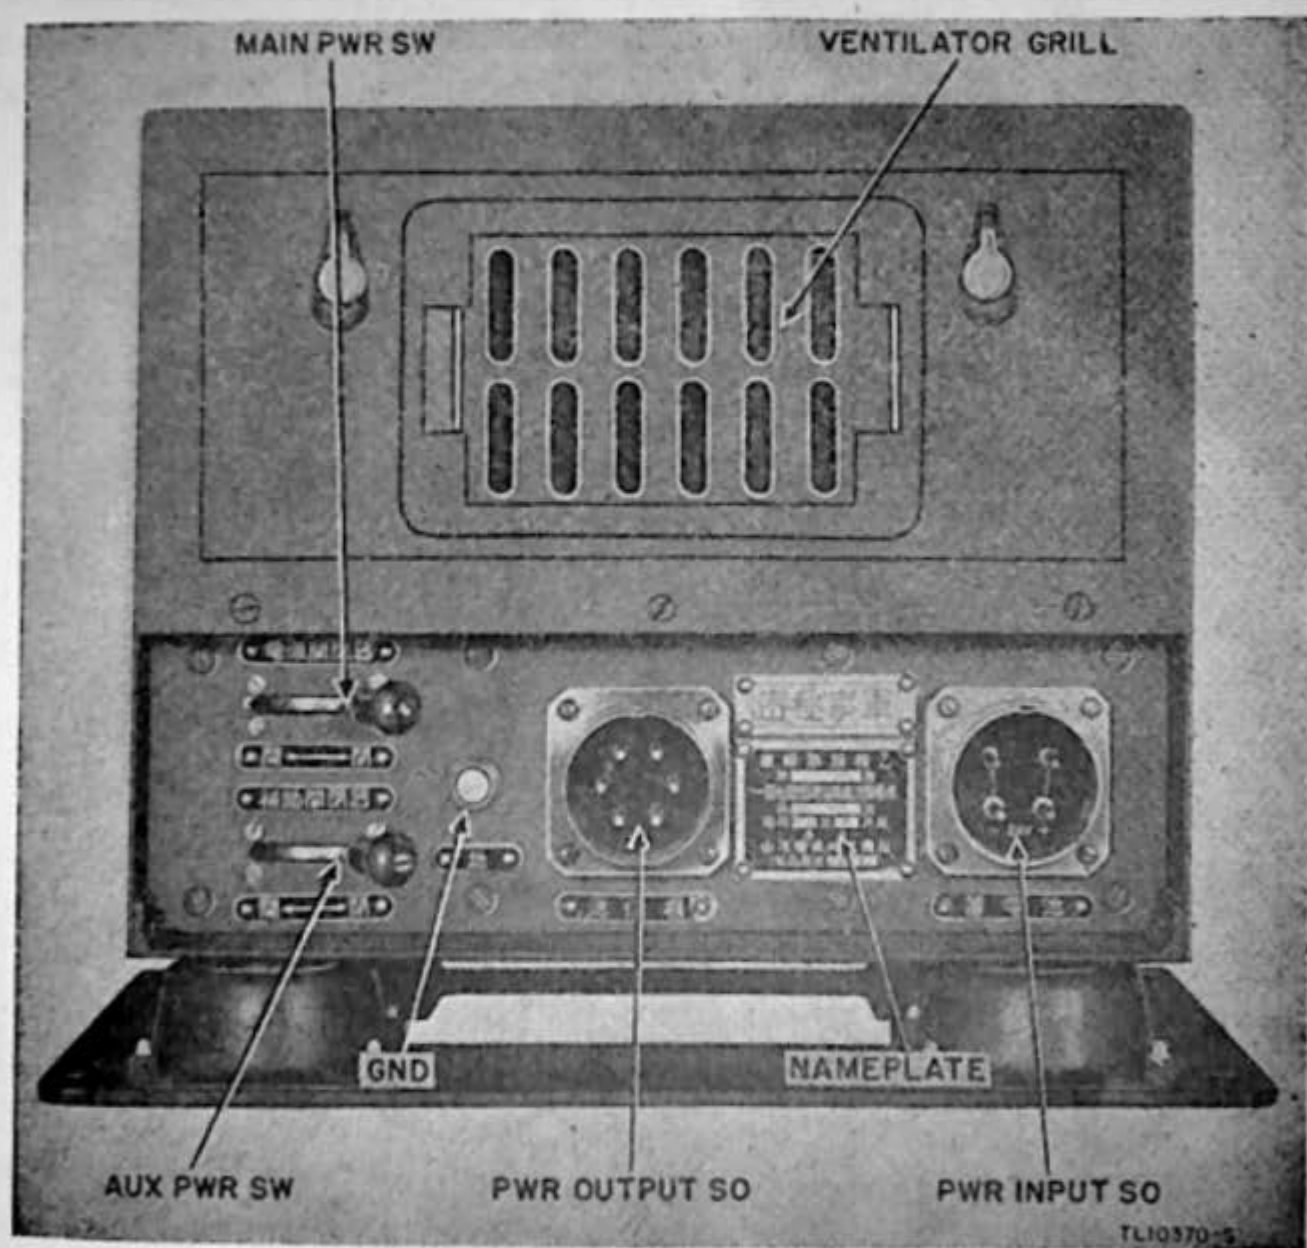

Figure 20. Model 147 Dynamotor, view of control panel.
a. *Physical.* The nameplate of the Model No. 147 Dynamotor, referred to as "the dynamotor," and its American equivalent are shown in figure 19. Figure 20 is a view of the dynamotor panel with all parts and controls clearly labeled. The chassis floor divides the interior of the dynamotor cabinet into two sections. Castle nuts and
bolts through the four mounting feet hold the dynamotor in place. Removable panels held by snap latches allow access to the top and sides of the dynamotor. Ventilation is provided in the front and rear panels by sliding doors with screened vents behind the door openings (fig. 20). Access to the circuit components in the lower half of the cabinet is obtained by releasing the two snap latches which hold the bottom panel in place. The cabinet is of steel construction and is shock-mounted by four feet set in rubber. A rectangular iron plate bolted to the shock-mounting forms the base plate for the cabinet. The entire unit is painted the regulation Japanese army brown.